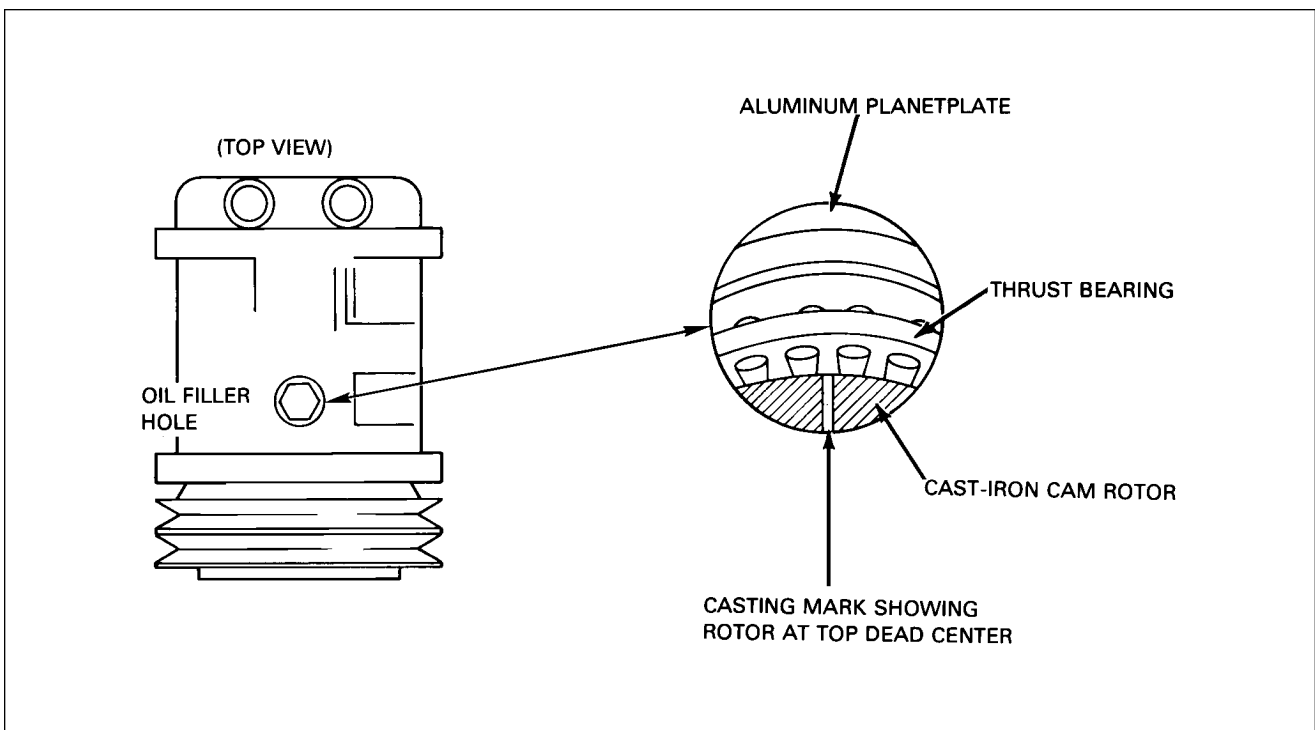

Figure 21-11. Top Dead Center Casting Mark (Sankyo Compressor)
4. Position the rotor to top dead center (refer to Figure 21-11) by rotating the clutch front plate until the casting mark is visible in the center of the hole.